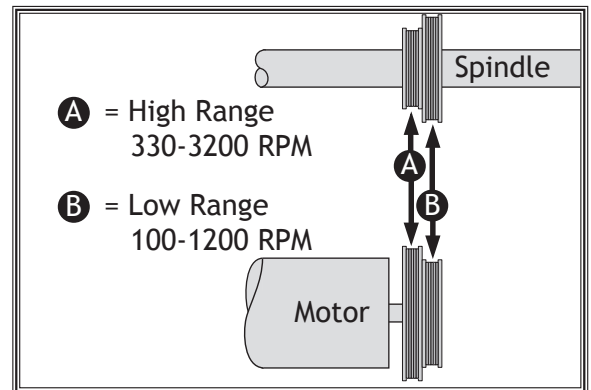

Figure 34. Speed range belt positions.
5. Reach into belt access cavity and roll belt onto desired set of pulleys, as shown in **Figure 34**.